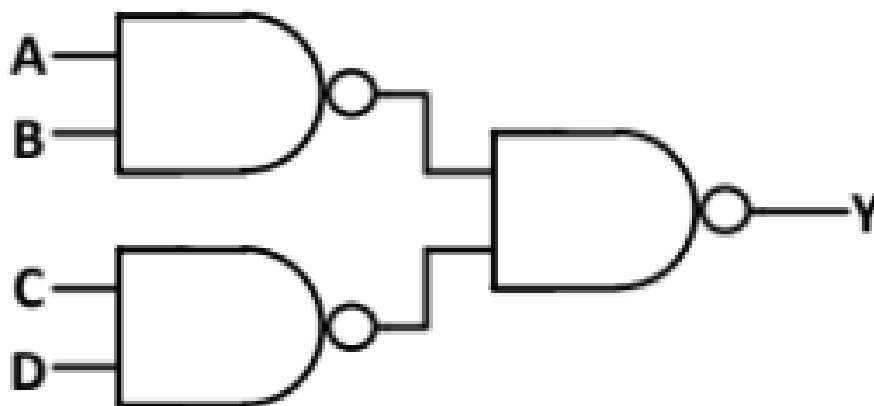

Figure 3.10:
23. Find the logic function implemented by the circuit given below in Fig. 3.10 (GATE EE 2018)